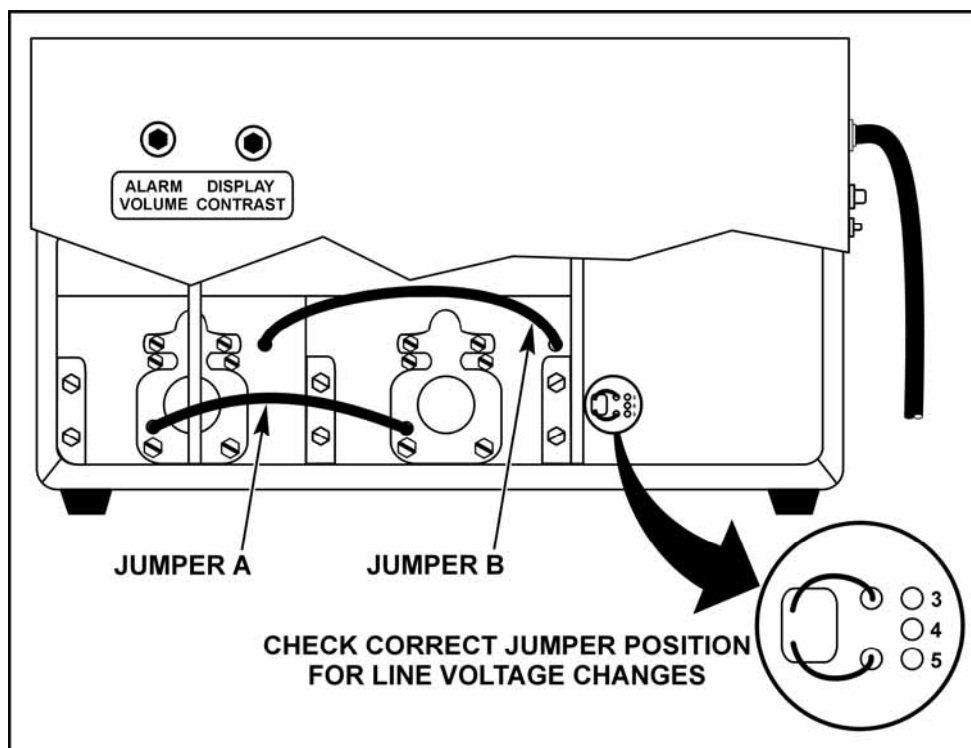

Figure 7-1. Line Voltage and Capacitor Bank Jumpering
To disconnect the right half of the capacitor bank from the left half, refer to figure 7-1 and proceed as follows:
- The taps on Charging Transformer T1, located on the floor of the power supply housing (refer to figure 7-1).